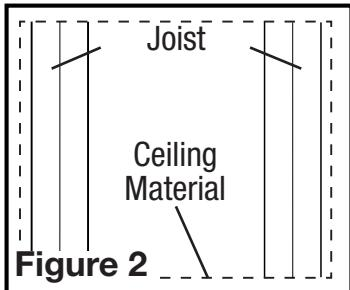

Figure 2
- To install this fan into existing construction, cut an opening large enough to gain access to the ceiling joists, being careful not to cut or damage any electrical or other hidden utilities (**Figure 2**).